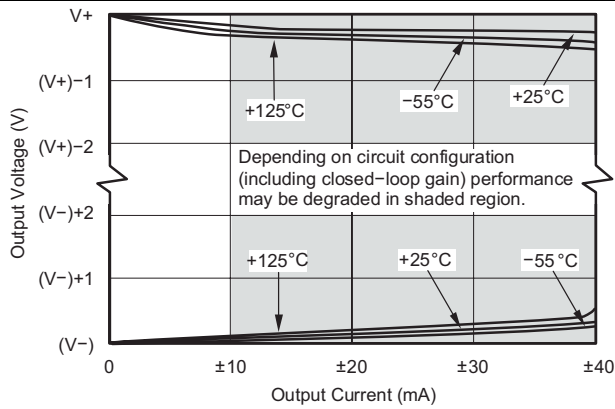

Figure 17. Output Voltage Swing vs Output Current
(5) See Figure 17.
A class AB output stage with common-source transistors achieves rail-to-rail output. For light resistive loads (>10 kΩ), the output voltage swing is typically ten millivolts from the supply rails. With heavier resistive loads (600 Ω to 10 kΩ), the output can swing to within a few tens of millivolts from the supply rails and maintain high open-loop gain. See Figure 17 and Figure 18 for more information.